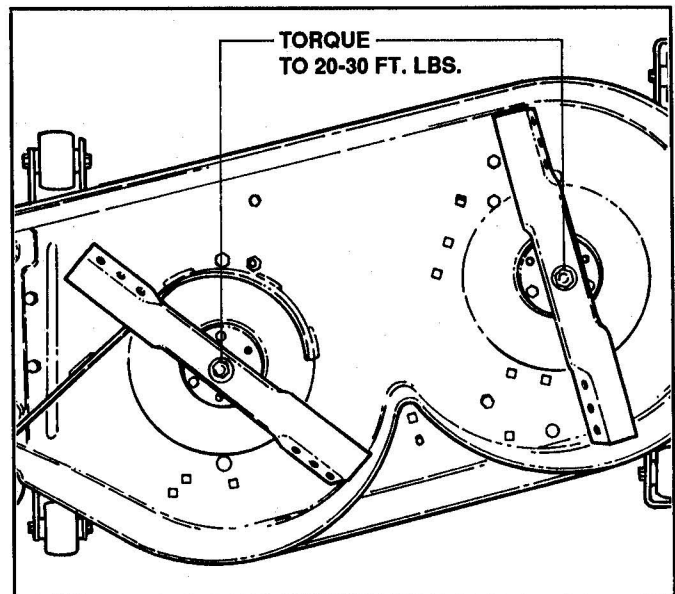

FIGURE 3.2
4. Check torque of blade mounting bolts. If necessary, torque to 35 ft. lbs. See Figure 3.2.